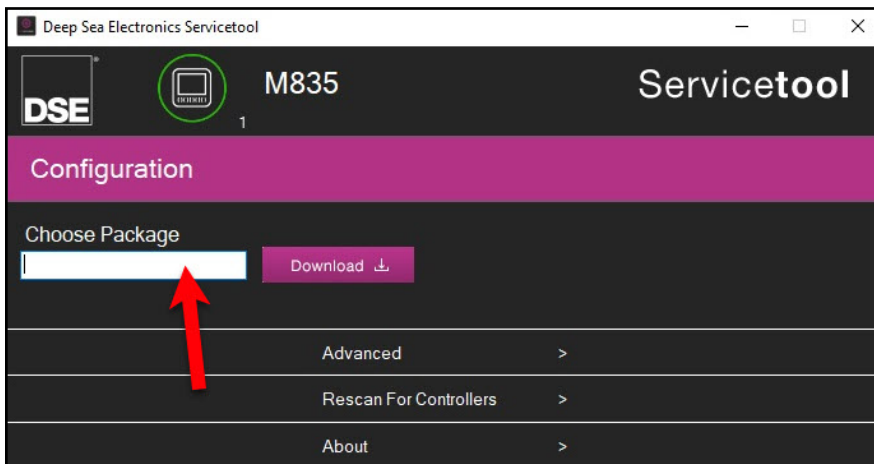

Figure 6
- The DSE program will advance to the next screen. Click in the blank white box to select your desired file (Figure 6).